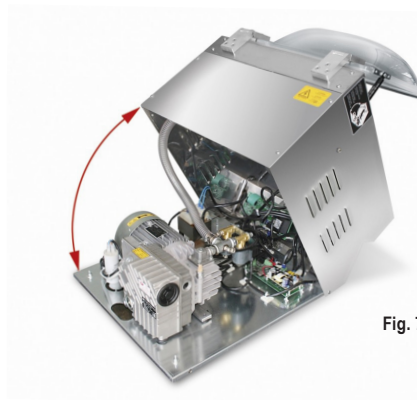
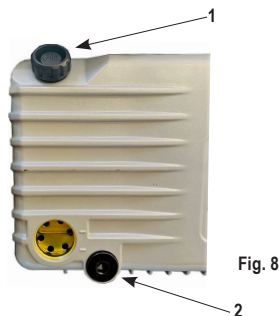

Fig. 7
Fig. 8
- Fold the casing forward (Fig. 7)
- Loosen and completely remove the screw cap located next to the level sight glass (Point 2, Fig. 8).
- For rapid oil draining, unscrew and remove the filling plug (Point 1, Fig. 8).
- Once the tank has been completely drained, insert the screw cap again (Point 2, Fig. 8) and tighten it well.
- Fill the tank via the filler neck (Point 1, Fig. 8) with oil specified by the manufacturer.
- When the maximum level indicated by the sight glass is reached (about 3/4 of the level sight glass), tighten the filler neck (Point 1, Fig. 8) and close the casing (Fig. 7 - 6) with the appropriate screws.